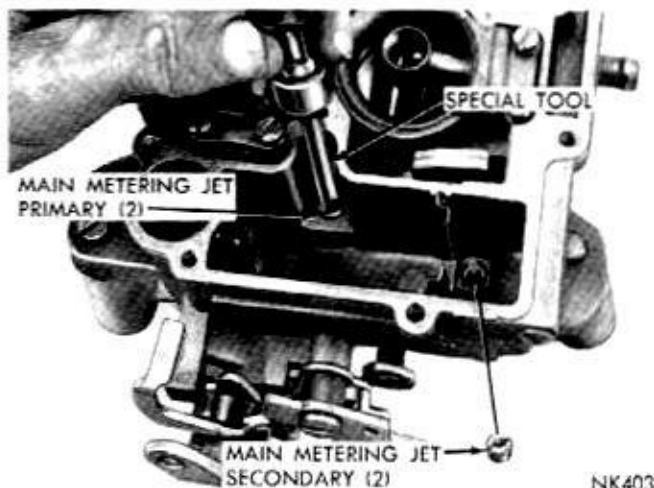

Fig. 4—Removing or Installing Main Metering Jets
(2) Using Tool T-109-58, remove main metering jets (primary side), (Fig. 4). **The primary and secondary main metering jets are not interchangeable. It is very important that these jets be installed in their respective locations in the main body at reassembly.**
(3) Again using Tool T-109-58, remove main metering jets (secondary side), (Fig. 4).